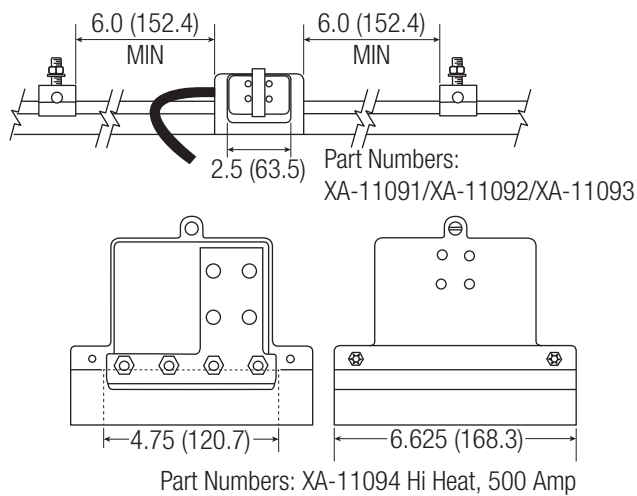

Figure: 9-11
- A. Install powerfeeds at locations on installation drawing. If no drawing provided, locate powerfeeds following the designated space considerations as shown. See **Figure: 9-11**.
- B. Cut conductor bar as shown. See **Figure 9-11**.